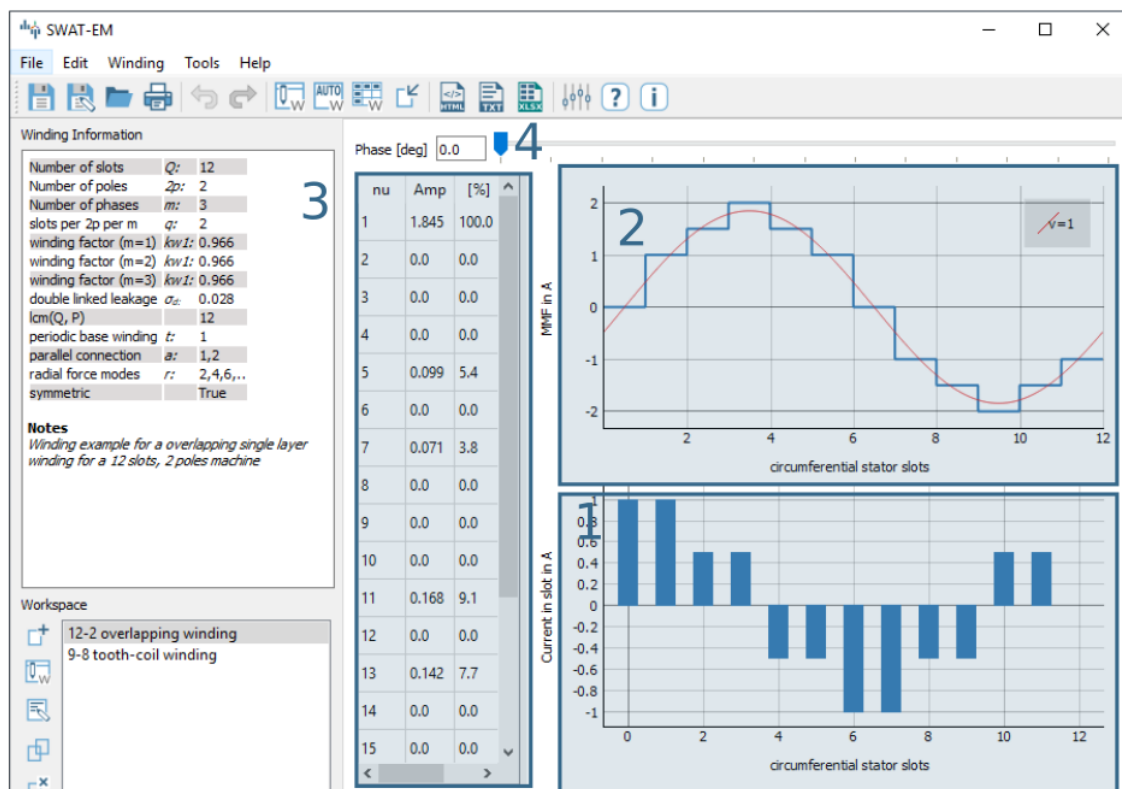

Figure 4.4: Plot of the ampere-conductor distribution and the Magnetomotive force (MMF)
Therefor the distribution of ampere-turns is coupled with number of slots. (1) in Figure 4.4 shows this for a winding example with $Q = 12$ slots, so there are 12 bars. In reality the distribution has a width per bar which corresponds to the slot opening. However in theory (in this program) the distribution can be interpreted as infinitely thin peaks. The integral of this leads to the MMF
which is shown in (2) in figure 4.4. The waveform of the MMF corresponds to the magnetic field, that is generated in the airgap by the winding. For further information consider the literature (eg [4]). The plot also shows the fundamental and some of the harmonics. The number of harmonics which are plotted can be defined relative to the fundamental. Please consider the "Tools" \rightarrow "Settings" dialog. The table (3) in the window displays the harmonic analyses of the MMF. With the slider (4) one can define the phase angle of the AC current system for the MMF plot. Note that the phase angle has no effect on the harmonic content of the MMF, so the harmonic analyses is independent from it.